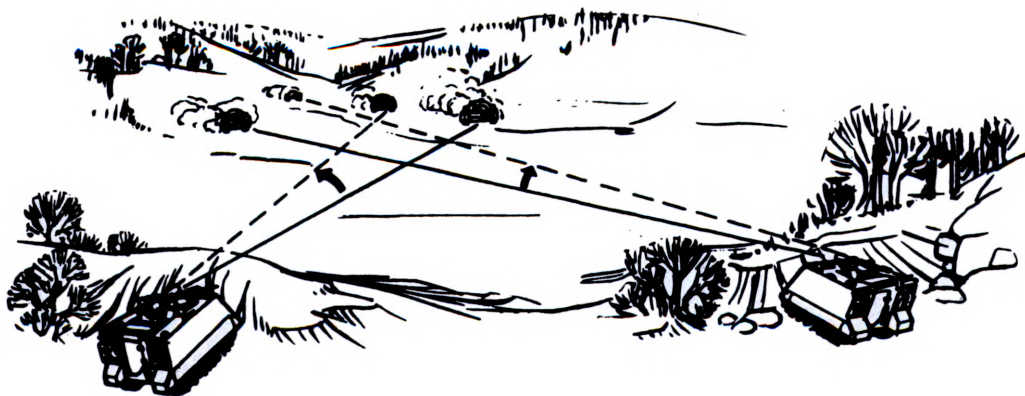

Figure 6
b. Crossfire Pattern. The crossfire pattern is best used when a target formation is spread perpendicular to your direction of fire and moving toward your position. In addition to distributing section fires, it also enables you to achieve a flank engagement and deceive the enemy (fig. 6).